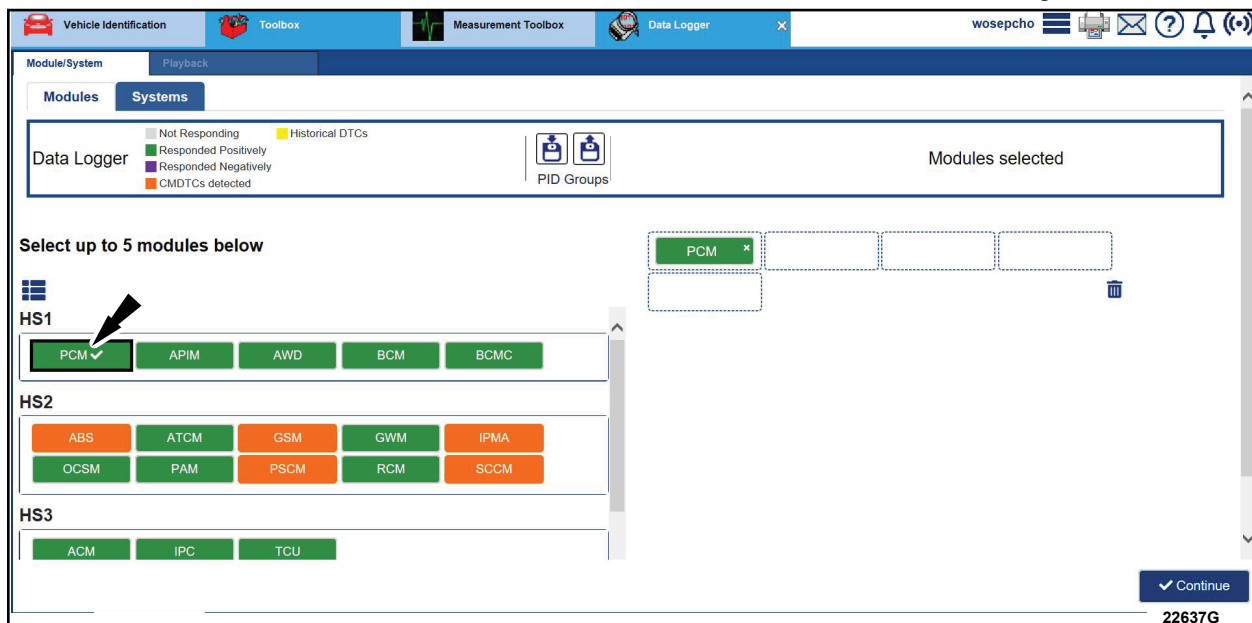

FIGURE 2
- From the list on the LH side of the screen, select **PCM**, then click **Continue**. See Figure 2.